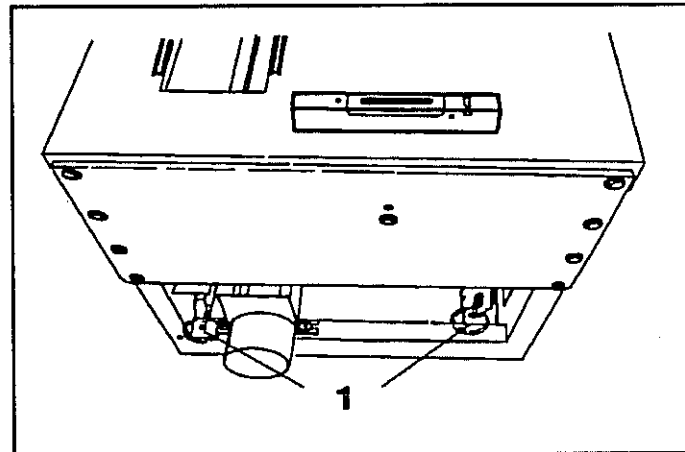

Fig.2.6
- 1- Place a level on one side of the machine, transverse in regards to the base axis. Make fine adjustments on the screws as illustrated in Fig.2.6 points 1.